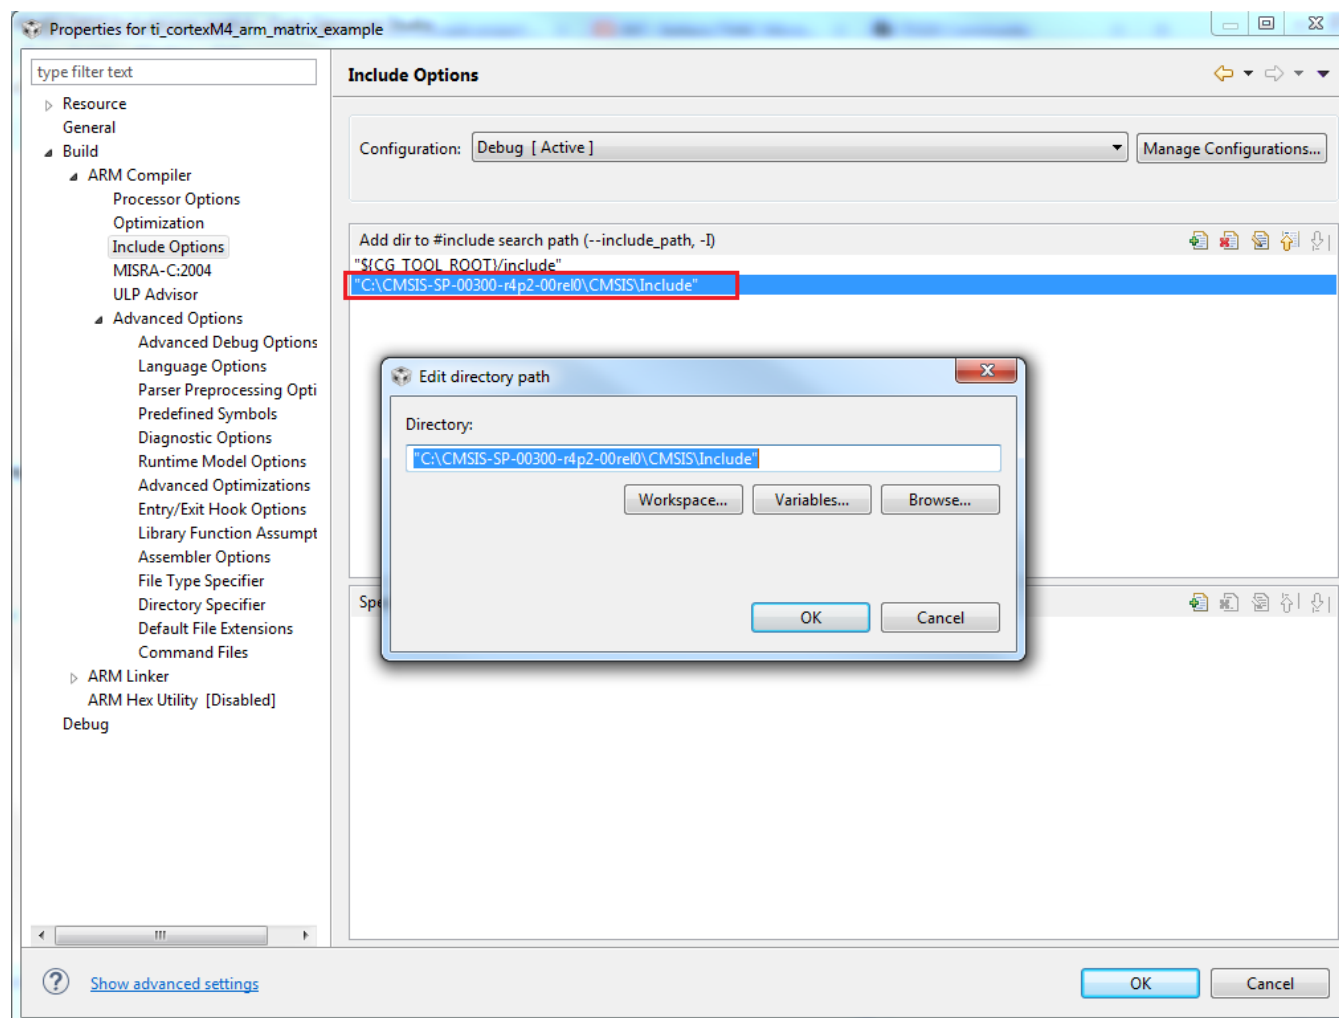

Figure 21. Compiler's #include Search Path Modified to Contain Both the Base CMSIS Include Directory and the Example Projects' Common Include Directory
9. Click the *Add...* button again, then the *Browse* button and browse to the Include directory located in the CMSIS directory, then click **OK** (see Figure 21).